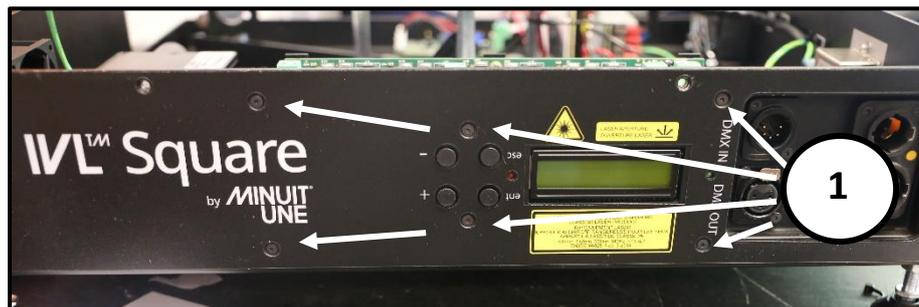

FIGURE 46: UNSCREW THE MAINBOARD
Remove the Mainboard by unscrew the 6 Allen T2 screws (1) in Figure 46